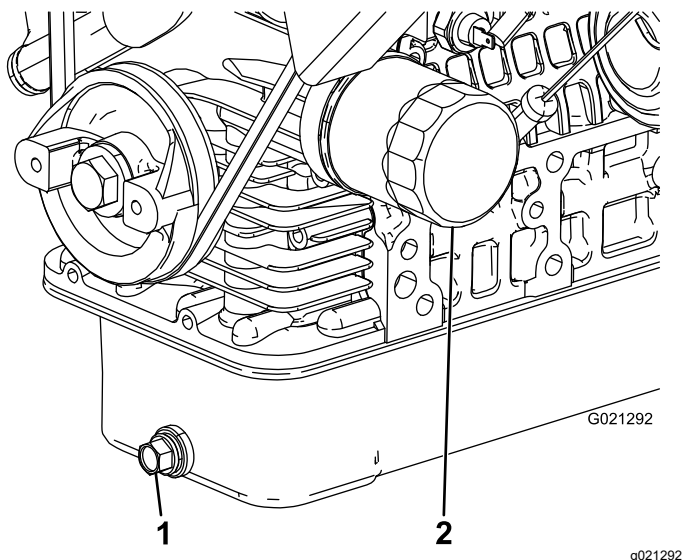

Figure 36
2. Remove the drain plug and let the oil flow into a drain pan (Figure 36).
4. Remove the oil filter (Figure 36).